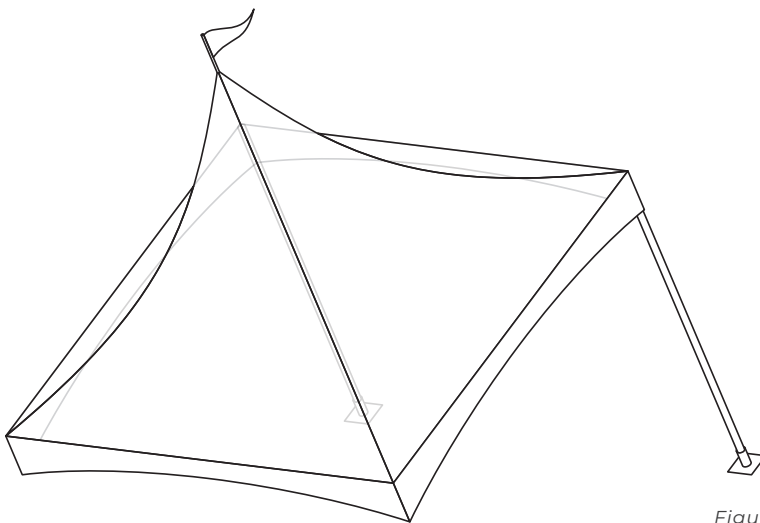
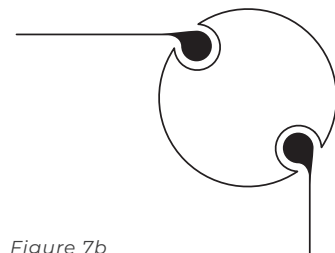

Figure 7a
Figure 7b
8. Place two poles on one side beneath the frame so that the roof frame lies at an angle (see figure 7a). Ensure that the widening of the keder groove is at the top of the vertical poles and that the keder grooves are fitted at an angle of 45° in relation to the corners of the tent (figure 7b).